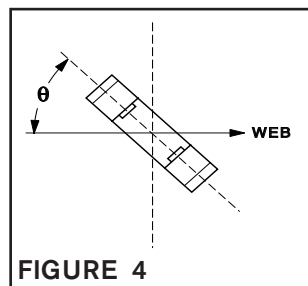

FIGURE 4
1. Adjust UH01 until angle Θ is 75° or less. This will reduce any sensing errors caused by web path fluctuations (See Figure 4).